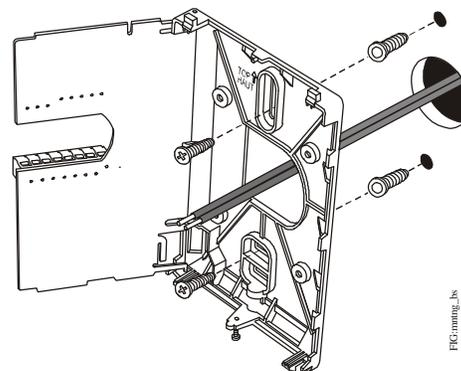

Figure 3: Securing the Thermostat Mounting Base to the Wall
7. Secure the base to the wall surface using two mounting screws as illustrated in Figure 3.